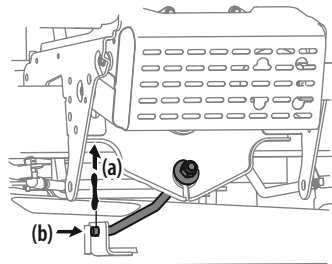

Figure 32
- On 36", 42" and 46" decks, Remove the bow-tie pin (a) securing the deck stabilizer rod (b) to the deck. Slide the deck lift rod from the mounting weldment on the deck as seen in Figure 32.